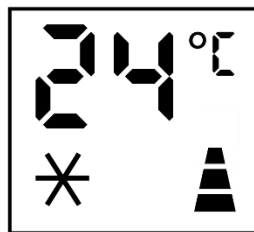

Fig 7
- Press either the TIMER or the ON/OFF button and the timer will be cancelled. The TIMER symbol will then disappear from the screen (Fig. 7).